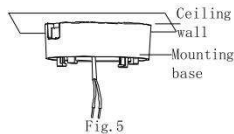

Fig. 5
(5) The mounting base is fixed to the ceiling wall. As shown in Fig. 5.